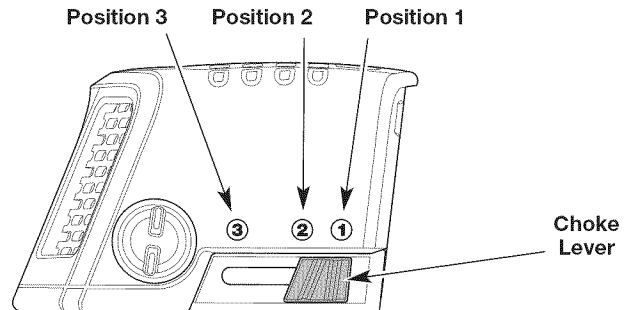

Fig. 11
4. Move the choke lever to **Position 1** (Fig. 11).
7. Continue to squeeze the throttle control. Move the choke lever to **Position 2** (Fig. 11).
10. Continue to squeeze the throttle control. Move the choke lever to **Position 3** (Fig. 11) and continue warming the engine for an additional 60 seconds. The unit may be used during this time.
8. Continue to squeeze the throttle control. Move the choke lever to **Position 2** (Fig. 11).
12. Continue to squeeze the throttle control. Move the choke lever to **Position 3** (Fig. 11) and continue warming the engine for an additional 60 seconds. The unit may be used during this time.